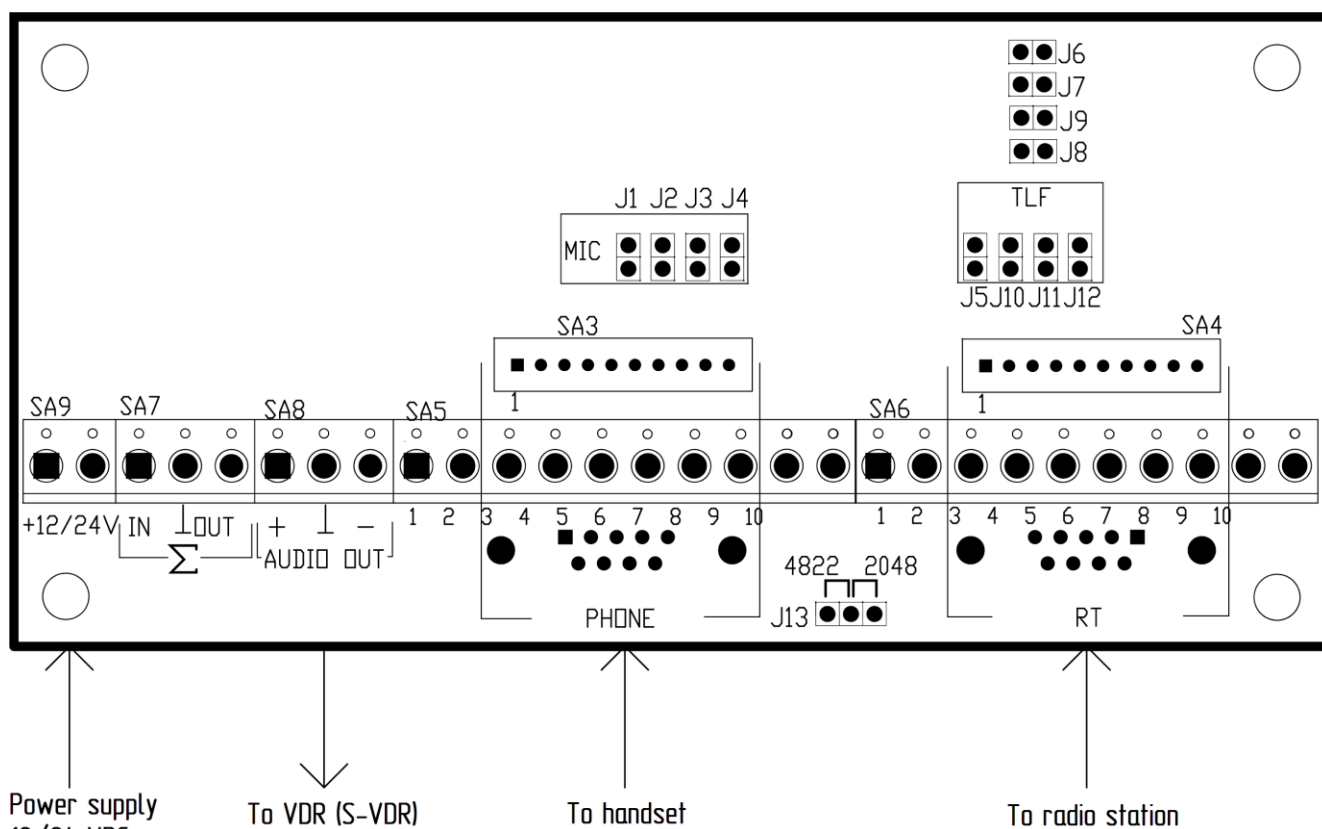

Figure 2 – Connection diagram of the Product and jumpers layout on the printed board.
Figure 2 shows special mounting holes on the Product casing for its installation.
- a) prepare a place for mounting on a vertical bulkhead or mounting panel near VHF-radio station according to dimensional drawing of the Product (see Figure 2);